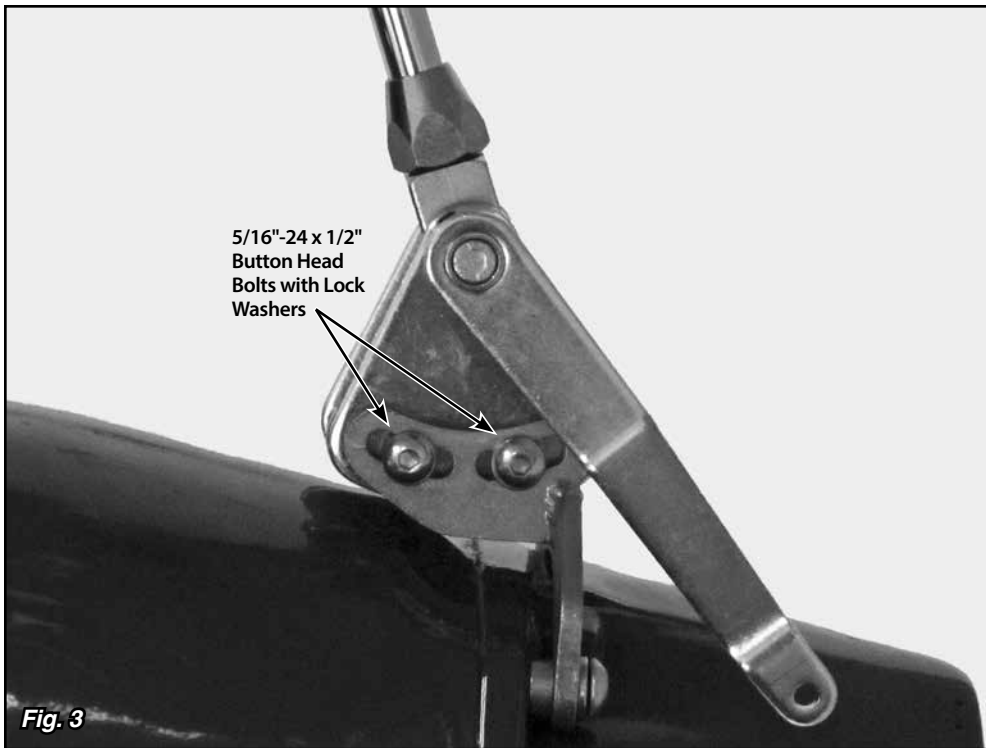

Fig. 3
Step 5: Insert the shifter assembly into the tailmount bracket so that the bolt holes line up with the curved, slotted holes in the welded banana brackets, and install four 5/16"-24 x 1/2" button head bolts with lock washers. **Fig. 3**
Step 7: Make sure the two 5/16"-24 x 1/2" button head bolts in the left side of the shifter assembly on the welded banana bracket are tight. Move the Shifter through all the gear positions. Make sure that the shifter lever and knob do not come in contact with the dash or the seat. The shifter assembly can be tilted forward or backward if needed by loosening the 5/16"-24 x 1/2" button head bolts in the welded banana bracket on the left side. Be sure to re-tighten the bolts in the welded banana bracket after adjusting the angle of the shifter assembly. **Fig. 3**